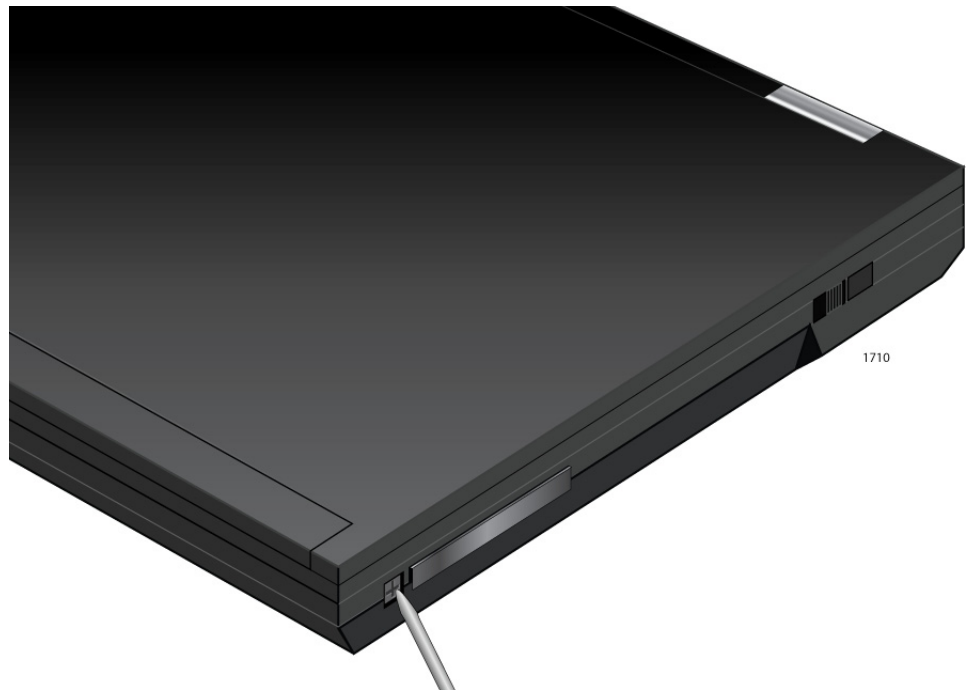

Figure 11. Pressing the Button
3. Use a pen and press the button toward the laptop and to the left. See Figure 11.